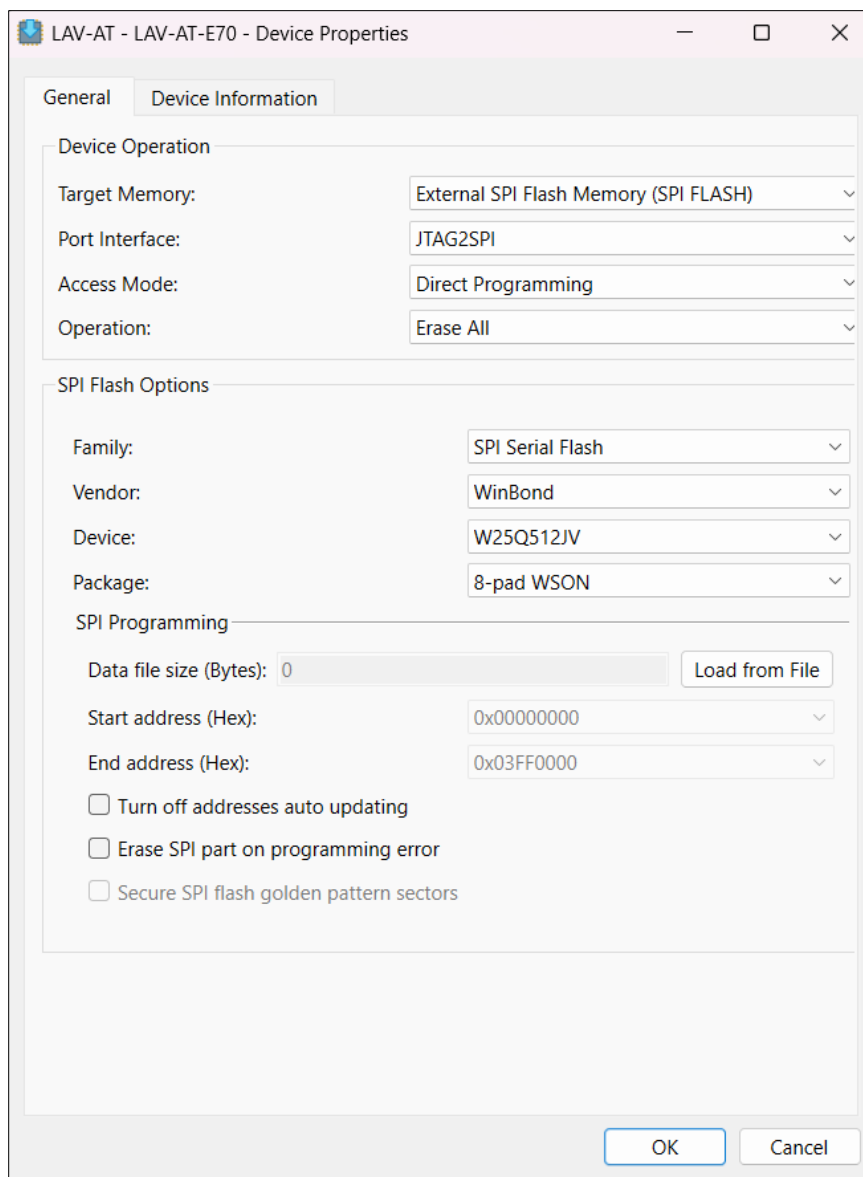

Figure 6.14. Device Properties to Erase the Winbond SPI Flash
9. Before programming, you need to erase the entire SPI Flash Memory by applying the settings shown in Figure 6.14.